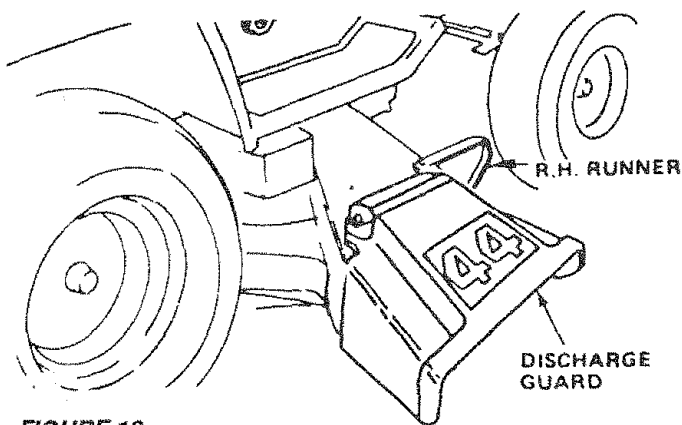

FIGURE 16
- a. Use the runner on the R.H. side as a guide; the blade cuts approximately 2.54 cm (1 inch) outside the runner (Fig. 16).
Your mower has a flip-up discharge guard (Fig. 16) for door or gate clearance when held in raised position.